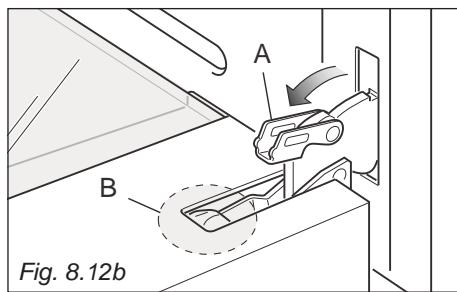

Fig. 8.12b
- Open the lever "A" completely on the left and right hinges (fig. 8.12b).
- Gently close the door (until left and right hinge levers "A" are hooked to part "B" of the door (figs. 8.12b, 8.12c).
- Gently close the door until left and right hinge levers "A" are hooked to part "B" of the door (figs. 8.12b, 8.12c).